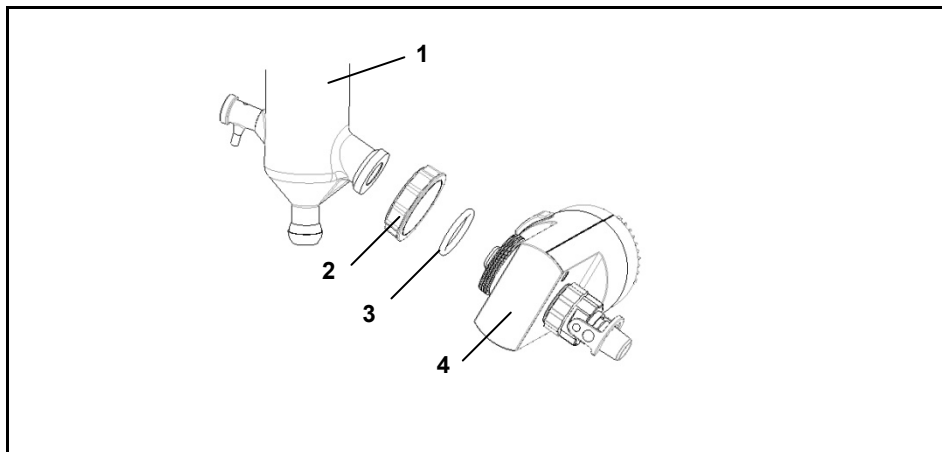

Figure 4-10: Assemble the glassware set (the example here is glassware set G1)
- Push the threaded connection (2) over the condenser flange.
- Push the spring (3) over the condenser flange.
- Screw the G6 (6) gland on the drive head (Figure 4-10 (4)).
- Insert the G6 intermediate part (5) with seal G6 (4) into the gland G6 (6).
- Screw the center piece (1) with the screw (2) on gland G6 (6).
- Insert the condenser in the upper cut on the center piece (1).